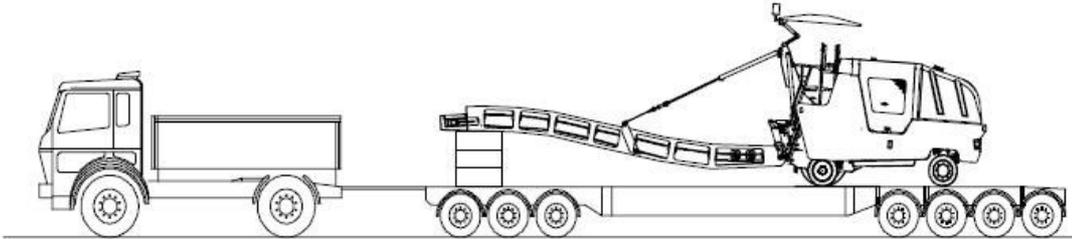
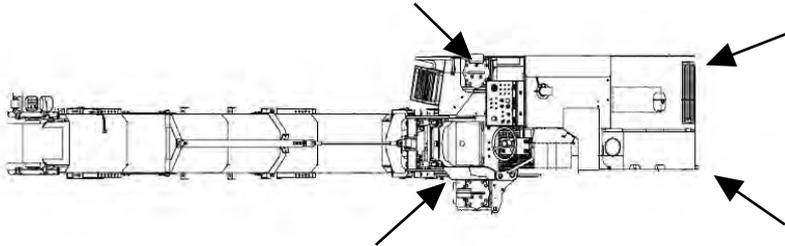

Fig.1 Machine loaded on low-loader
Fig. 2. Lashing points, 4 x
The machine must always be reversed up the ramp with the rear end pointing in the direction of travel of the transport vehicle. (fig.1).
- If the conveyor belt is mounted, place it on its support as per fig. 1 and lash separately in addition to the lashing points indicated in fig. 2 and 3 on the next page.